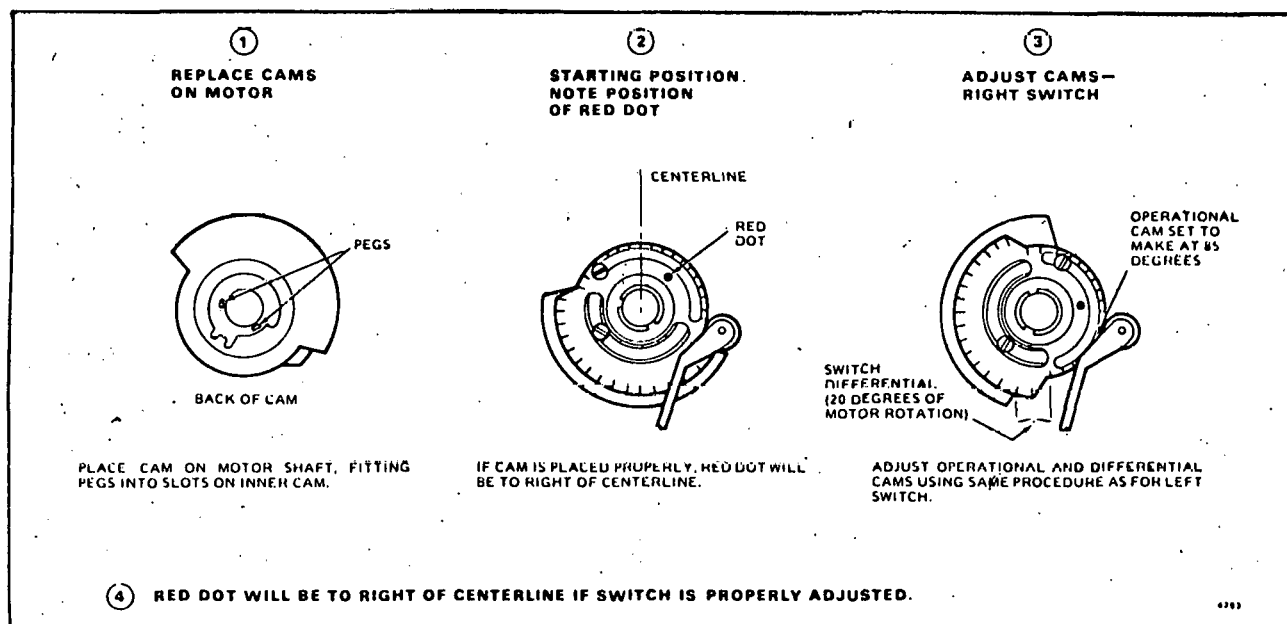

FIG. 16-ADJUST MAKE AND BREAK POINTS OF RIGHT AUXILIARY SWITCH.
6. Put right switch cams on motor shaft and adjust right switch (Fig. 16).